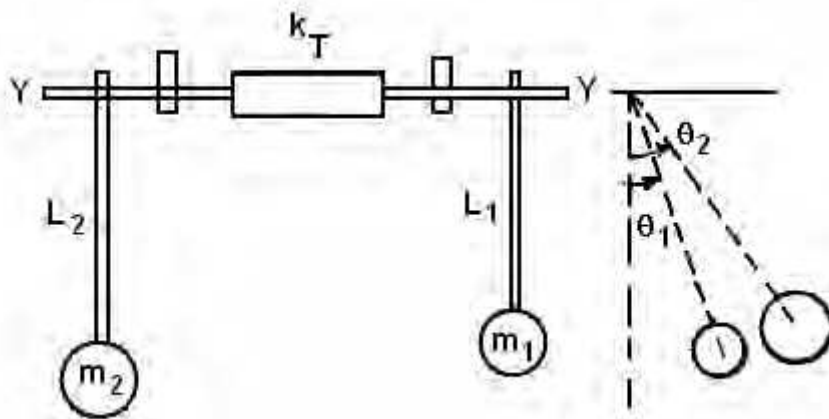

Figure 5:
7. Two pendulums of different lengths are free to rotate y-y axis and coupled together by a rubber hose of torsional stiffness  $7.35 \times 10^3 \text{ Nm / rad}$  as shown in figure 5. Determine the natural frequencies of the system if masses  $m_1 = 3\text{kg}$ ,  $m_2 = 4\text{kg}$ ,  $L_1 = 0.30 \text{ m}$ ,  $L_2 = 0.35 \text{ m}$ . [16]